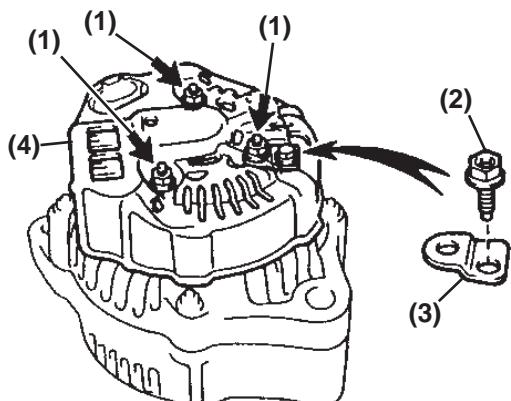

Figure 11-43
11. Install the rear cover (**Figure 11-43, (4)**) and plate terminal (**Figure 11-43, (3)**) using 3 nuts (**Figure 11-43, (1)**) and a bolt (**Figure 11-43, (2)**).